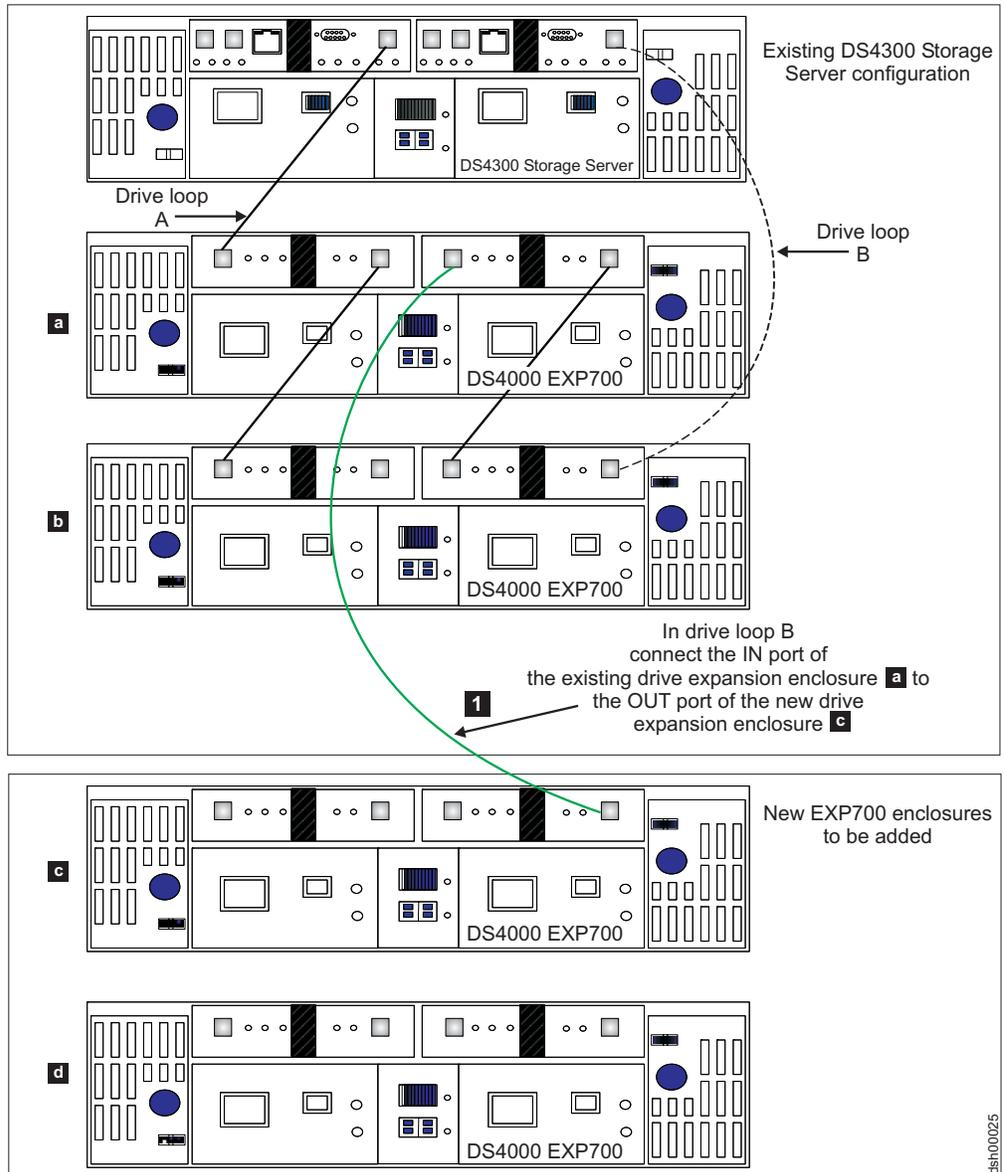
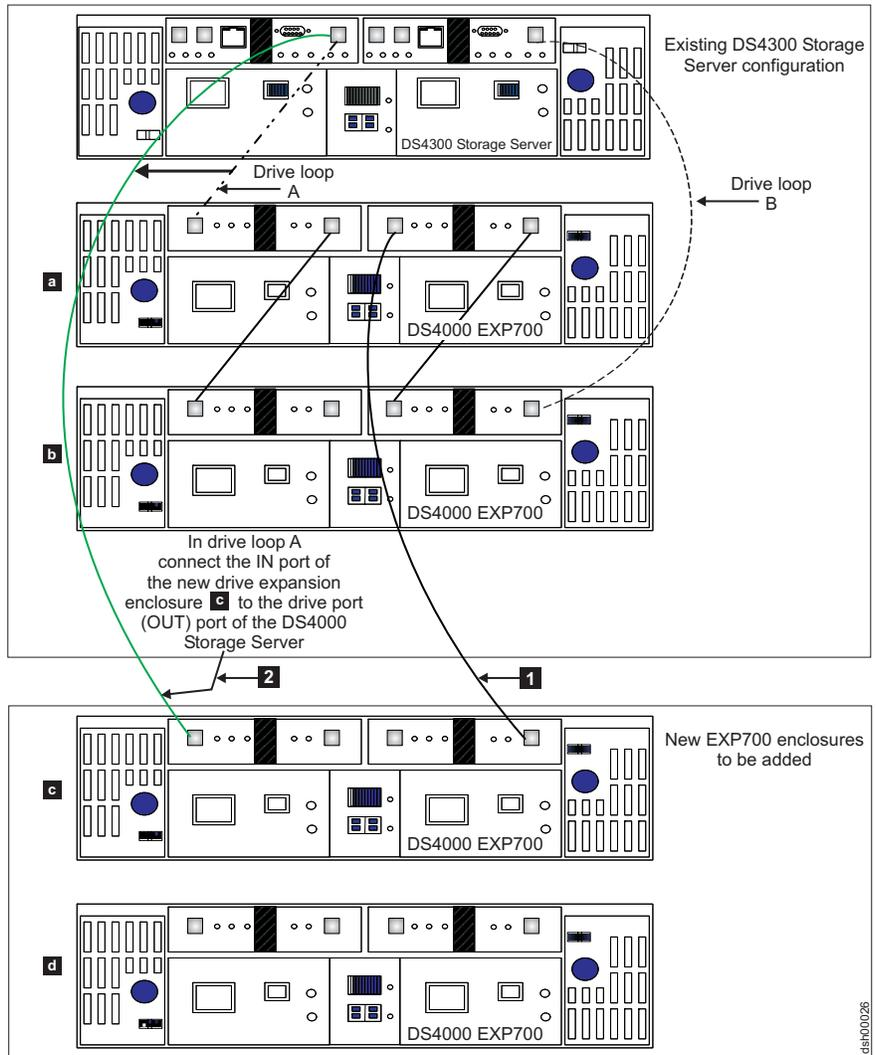
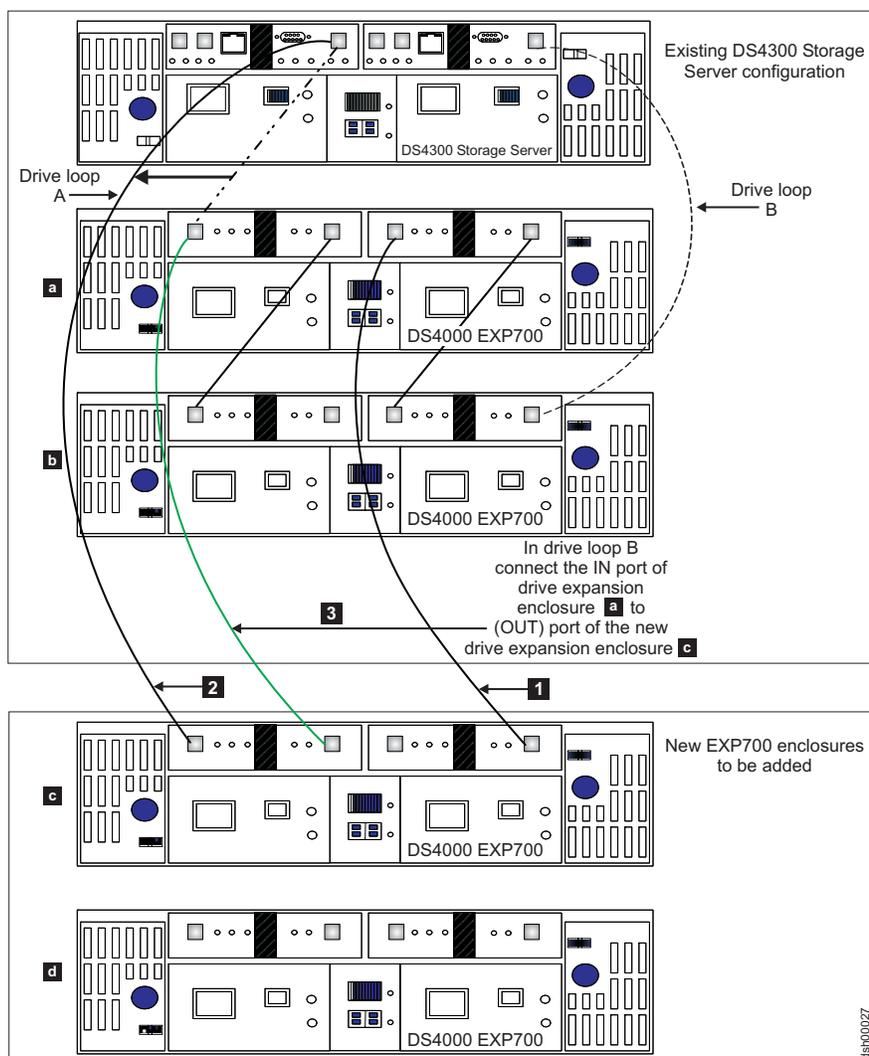

Figure 40. Cabling a single drive enclosure to the beginning of a functioning drive loop (step 1 of 3)
Figure 41. Cabling a single drive enclosure to the beginning of a functioning drive loop (step 2 of 3)
Figure 42. Cabling a single drive enclosure to the beginning of a functioning drive loop (step 3 of 3)
It is possible to add new storage expansion enclosures to either the beginning (top) or end (bottom) of a functioning storage expansion enclosure drive loop. The cabling instructions illustrated in Figure 40 on page 108, Figure 41 on page 109, and Figure 42 on page 110 describe cabling a DS4000 EXP700 Storage Expansion Enclosure to the beginning (top) of a redundant drive loop of a functioning DS4300 Storage Subsystem (model 60X or 60U). IBM does not recommend that you add storage expansion enclosures in this manner, especially if there is insufficient rack space to allow the methodical, uncluttered, and uniform fibre channel cabling of such new enclosures. Without proper planning, disadvantages of adding expansion enclosures in this manner include cable management issues that contribute to avoidable troubleshooting difficulties. (For the diagram of a properly planned addition of a new expansion enclosure at the beginning (top) of a functioning storage expansion enclosure drive loop, see Figure 34 on page 90.)
- \_\_\_ Step 2. Extend one of the drive loops (that is, drive loop B) in a DS4000 Storage Subsystem redundant drive loop pair by connecting the IN port of the first (existing) storage expansion enclosure to the OUT port of the new storage expansion enclosure as shown in Figure 40 on page 108.
- \_\_\_ Step 5. In the other drive loop (that is, drive loop A) in a DS4000 Storage Subsystem redundant drive loop pair, remove the connection from the DS4000 Storage Subsystem drive loop port to the IN port of the first storage expansion enclosure and connect it to the IN port of the new drive enclosure as shown in Figure 41 on page 109.
- \_\_\_ Step 7. In drive loop A, cable the new drive enclosure's OUT port to the IN port of the first enclosure in the already functioning storage expansion enclosure drive loop as shown in Figure 42 on page 110.